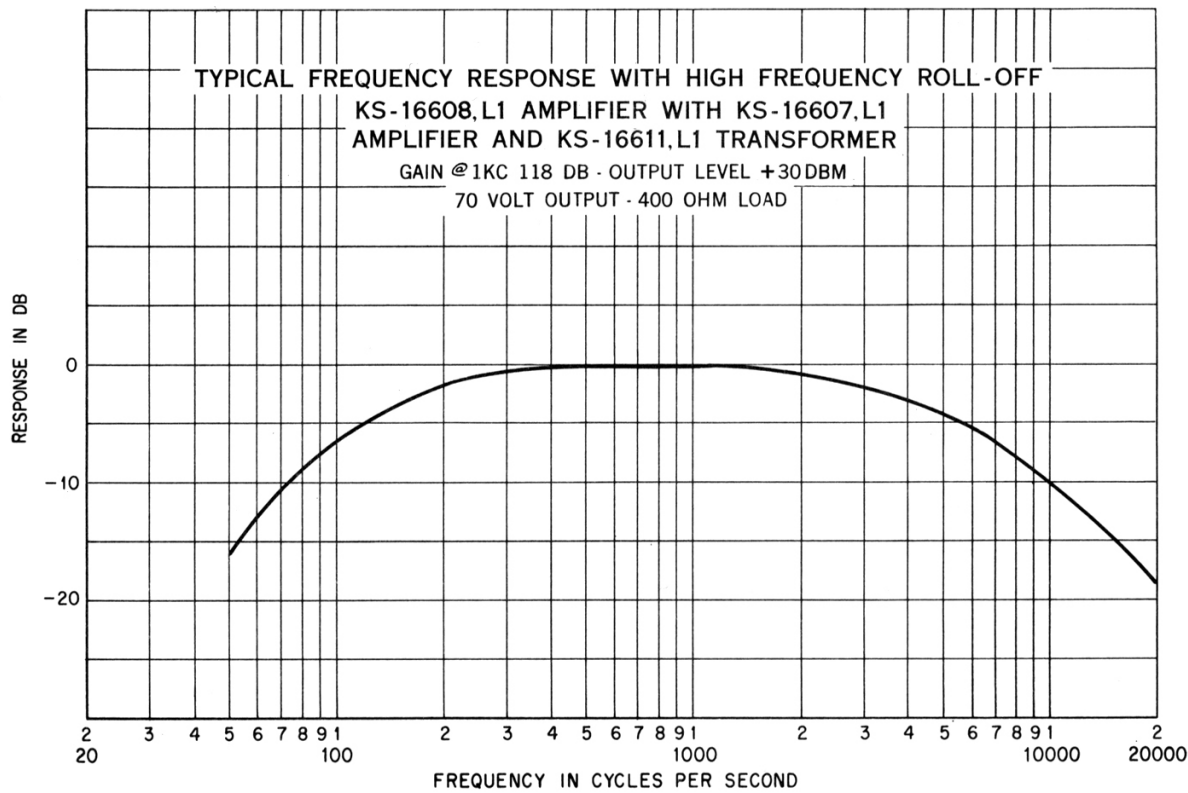

Fig. 9 – Response with High Frequency Roll-Off When Equipped with Preamp and Transformer
**6.06** Fig. 9 shows the high frequency roll-off characteristics of the basic amplifier when it is equipped with a preamp and transformer. This drooping characteristic of the amplifier is used to compensate for the rising characteristic of a carbon microphone at the high end of the